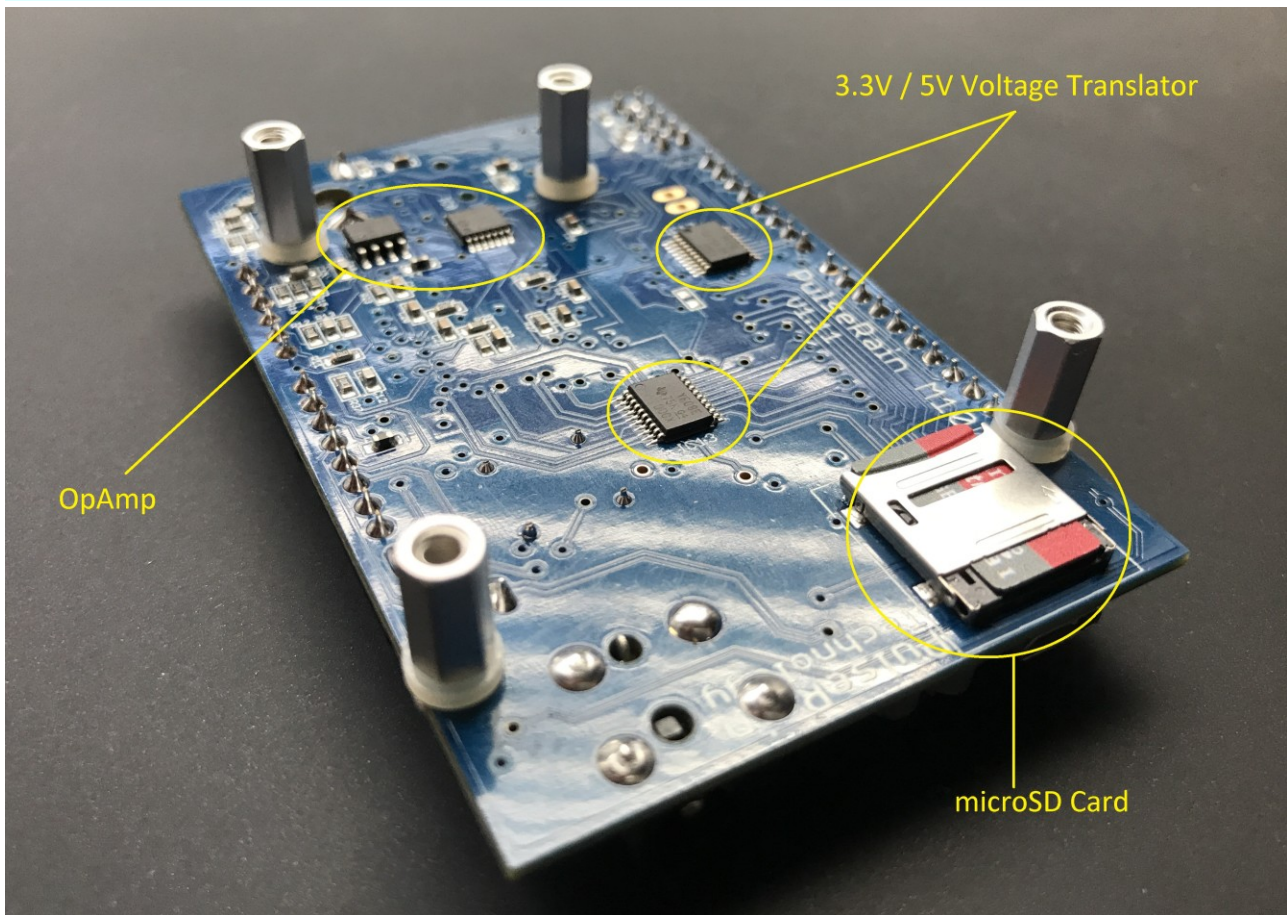

Figure 1-3 The Bottom View of M10
- On the bottom side, as illustrated in Figure 1-3: